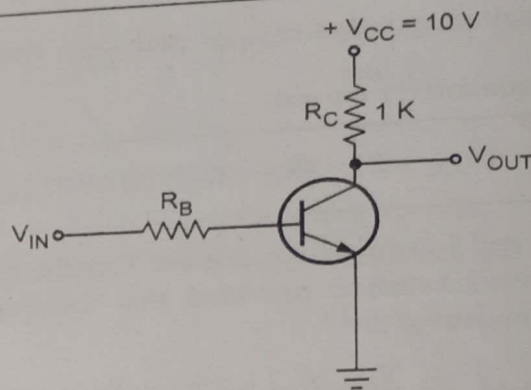

Fig. Q.72.1
Q.72 For the circuit shown in Fig. Q.72.1.